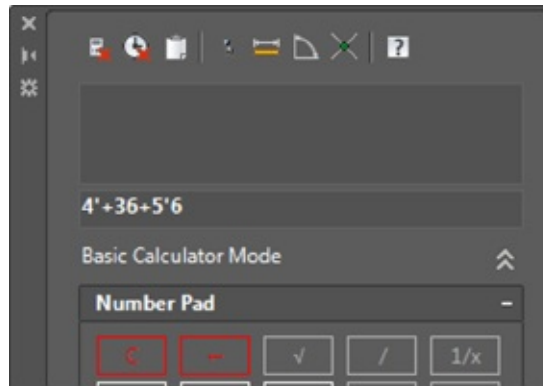

FIGURE 14.25 The QuickCalc text box
3. Double-click in the QuickCalc text box, and then enter **4'+36+5'6**. As you type, your entry appears in the text box (see Figure 14.25).